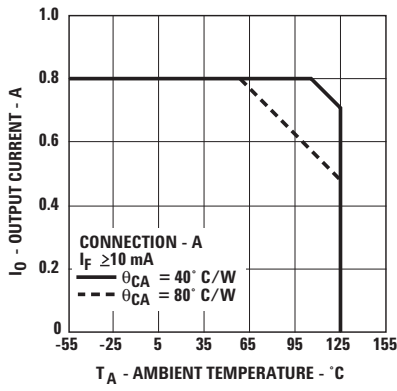
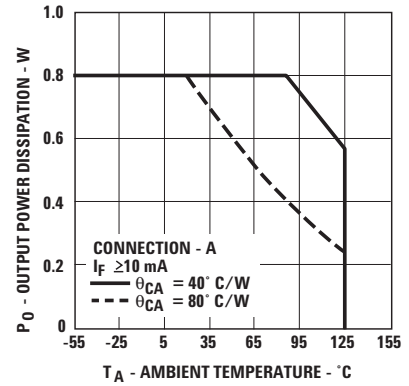

Figure 2. Maximum Average Output Current Rating vs. Ambient Temperature.
Figure 4. Output Power Rating vs. Ambient Temperature.
- For rating, see Figure 4. The output power P_O rating curve is obtained when the part is handling the maximum average output current I_O as shown in Figure 2.
IN ORDER TO DETERMINE V_{OUT} CORRECTLY, THE CASE TO AMBIENT THERMAL IMPEDANCE MUST BE MEASURED FOR THE BURN-IN BOARDS TO BE USED. THEN, KNOWING θ_{CA} , DETERMINE THE CORRECT OUTPUT CURRENT PER FIGURES 2 AND 4 TO INSURE THAT THE DEVICE MEETS THE DERATING REQUIREMENTS AS SHOWN.
The output on-resistance, R_{ON} , specified in this data sheet, is the resistance measured across the output contact when a pulsed current signal ($I_O = 800 \text{ mA}$) is applied to the output pins. The use of a pulsed signal ($\leq 30 \text{ ms}$) implies that each junction temperature is equal to the ambient and case temperatures. The steady-state resistance, R_{SS} , on the other hand, is the value of the resistance measured across the output contact when a DC current signal is applied to the output pins for a duration sufficient to reach thermal equilibrium. R_{SS} includes the effects of the temperature rise of each element in the thermal model. Rating curves are shown in Figures 2 and 4. Figure 2 specifies the maximum average output current allowable for a given ambient temperature. Figure 4 specifies the output power dissipation allowable for a given ambient temperature. Above 55°C (for $\theta_{CA} = 80^\circ\text{C}/\text{W}$) and 107°C (for $\theta_{CA} = 40^\circ\text{C}/\text{W}$), the maximum allowable output current and power dissipation are related by the expression $R_{SS} = P_{O(\max)}/(I_{O(\max)})^2$ from which R_{SS} can be calculated. Staying within the safe area assures that the steady-state junction temperatures remain less than 150°C . As an example, for $T_A = 95^\circ\text{C}$ and $\theta_{CA} = 80^\circ\text{C}/\text{W}$, Figure 2 shows that the output current should be limited to less than 610 mA. A check with Figure 4 shows that the output power dissipation at $T_A = 95^\circ\text{C}$ and $I_O = 610 \text{ mA}$, will be limited to less than 0.35 W. This yields an R_{SS} of 0.94Ω .